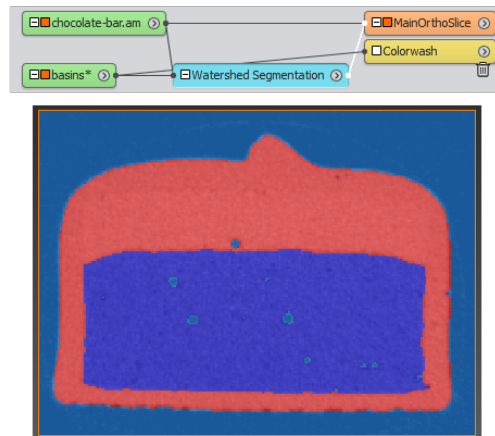

Figure 4.77: The *Watershed Segmentation* wizard completed.
- Simply press *Apply* to trigger computation (see Figure 4.77).